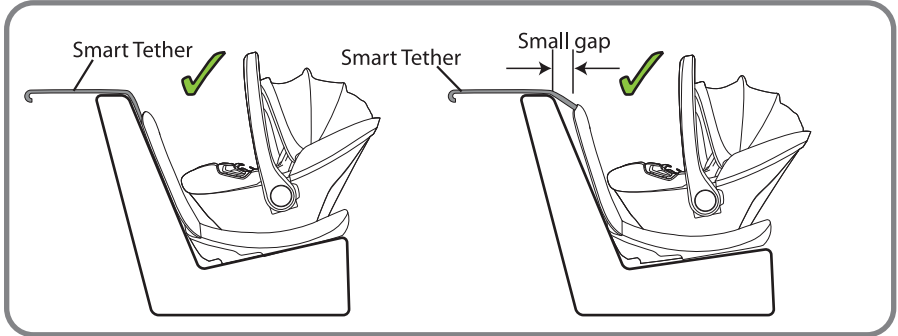

Figure 4
- Step 1:** Take the Base and turn over. At the rear of the Base is a rotating recline foot (refer to Figure 4).
- Step 2:** Hold the recline foot and rotate into the reclined position. (refer to Figure 4).
- Step 3:** The recline foot will lock into position (refer to Figure 4).
- Step 6:** Feed the adult lap or lap/sash belt through the belt path opening on each side of the Base (refer Figure 4 & 5).